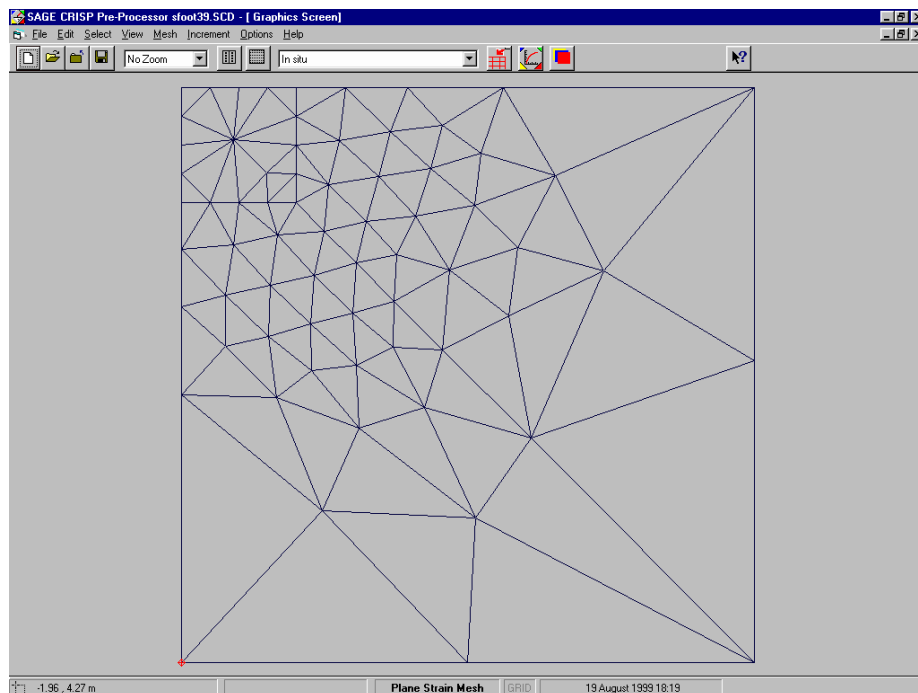

Figure 4-36 : Refined Finite Element Mesh Created Using The Unstructured Mesh Generator
- The mesh in Figure 4-36 was created using a single super element (a mega element) with super nodes at the four corners and 4 additional super nodes at (0, 15) (0, 16.667) (5, 20) and (7.5, 20)